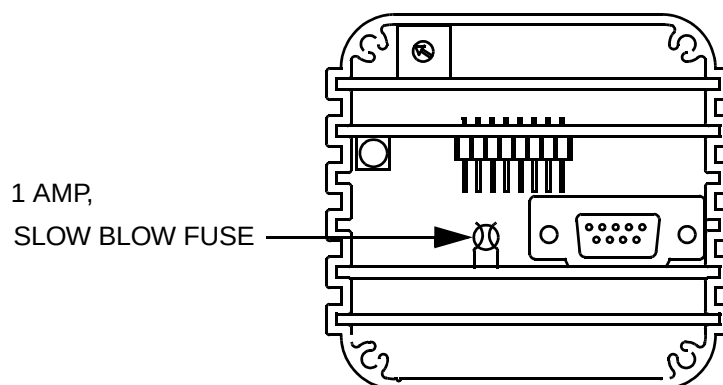

Figure 7-2: Fuse Location (Cover Removed)
5. Locate the defective fuse as shown in Figure 7-2 and replace it with a new 1 amp, slow blow fuse.